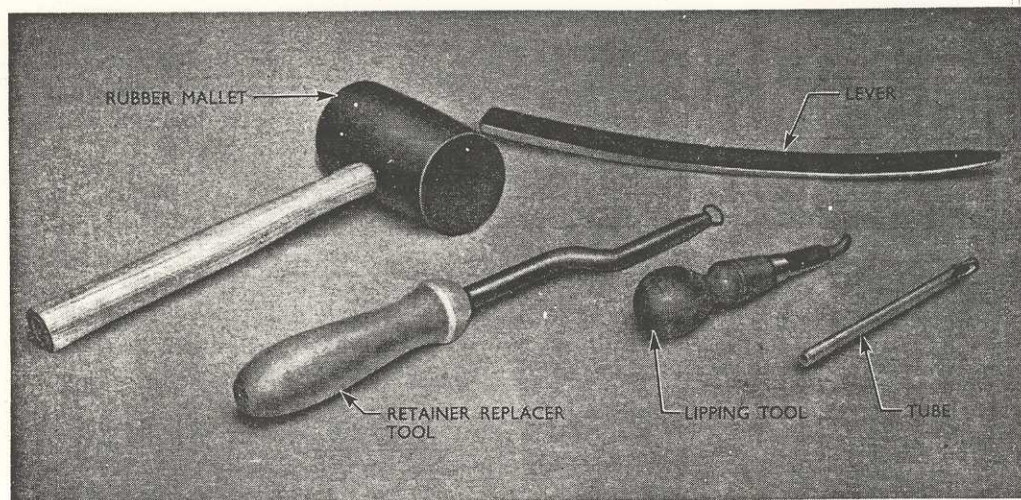

Fig. 1
Before commencing to remove or refit a windscreen glass ascertain the type of glass being dealt with. Two types are used, toughened and laminated and a close examination of the glass will reveal a distinguishing mark including the words "Toughened" or "Laminated", or "T" or "L", placed centrally in the windscreen approximately 1 in. above the lower chrome moulding. To assist in correct fitting, a number of suitable tools are illustrated in Fig. 1. However, the use of the rubber mallet and lever as described in the following instructions is restricted entirely to the fitting of **toughened** glass. It is essential that laminated glass be treated with extreme care and should not be subjected to sudden shock or distortion.
6. Fit a length of cord in the weatherstrip to body groove so that the cord ends emerge at the bottom centre, allowing a cross-over of approximately 6 in. A short length of tube (as shown in Fig. 1) with about  $\frac{1}{4}$  in. (6 mm.) diameter bore will assist in fitting the cord.